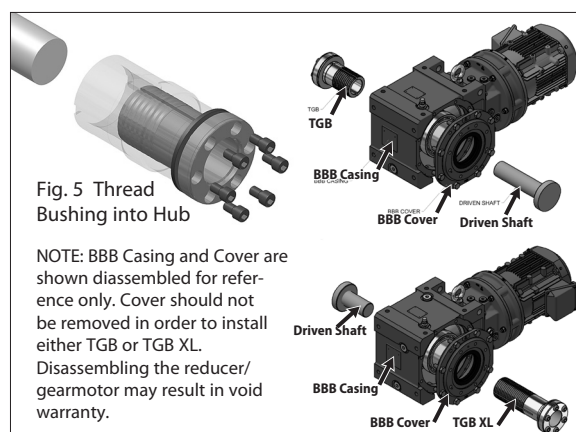

Fig. 5 Thread Bushing into Hub
**Step 5** – Carefully thread the Taper-Grip® bushing (TGB) in casing side or Extended Taper-Grip® bushing (TGB XL) in cover side into the hub of the speed reducer or gearmotor until the thrust collar solidly engages the unit hub surface and the bushing flange (see Fig. 5). **Caution: Do not cross-thread. Bushing should thread easily into hub.**